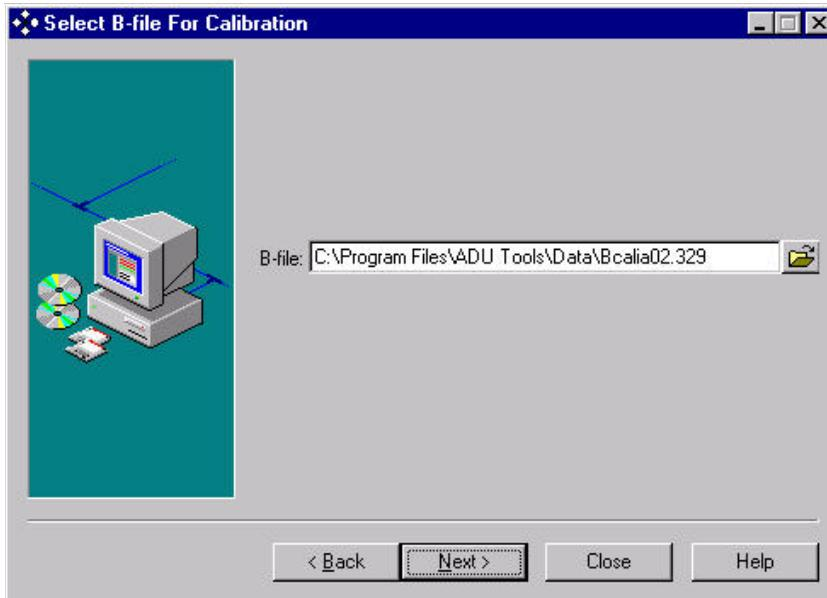

Figure 4.4 Select B-file for Calibration Dialog
| Select B-file for Calibration Figure 4.4 | Appears after the Startup dialog, if you are using data collected previously. | 37 |
4. Click **Next**. The **Select B-file for Calibration** dialog appears, Figure 4.4.